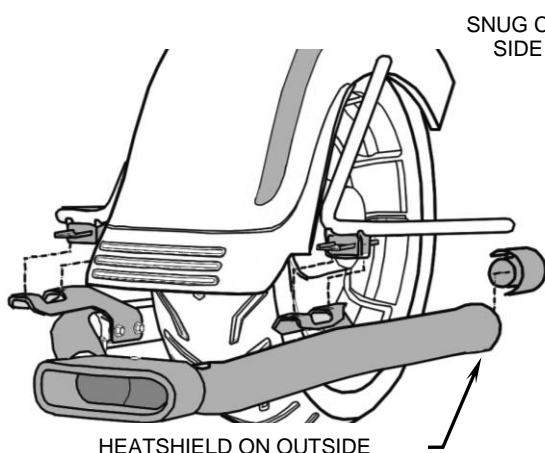

FIGURE 3
7. Carefully slide Center Pro muffler assembly onto left and right headpipes making sure that Center Pro heatshields go on the **outside** of headpipes' heatshields until rear muffler mounting bracket holes line up with stock muffler mounts, see Figure 3. Insert the (4) supplied 5/16 X 5/8" Flange bolts through the top of the stock slider mount, black powdercoated left and right mounts, supplied 5/16 flat washers and into supplied 5/16 nuts and lightly snug allowing mount to be moved for alignment.